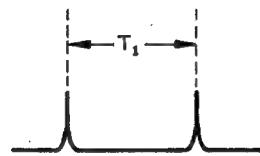

Figure 8-19.
2. Monitoring TP5 with an oscilloscope (internal trigger), adjust R7778 to obtain  $T_1 = 4.4\text{ms}$  as shown in Figure 8-19.
2. Monitoring TP9 with an oscilloscope (internal trigger), adjust R7770 to obtain  $T_1 = 4.6\text{ms}$  as shown in Figure 8-19.